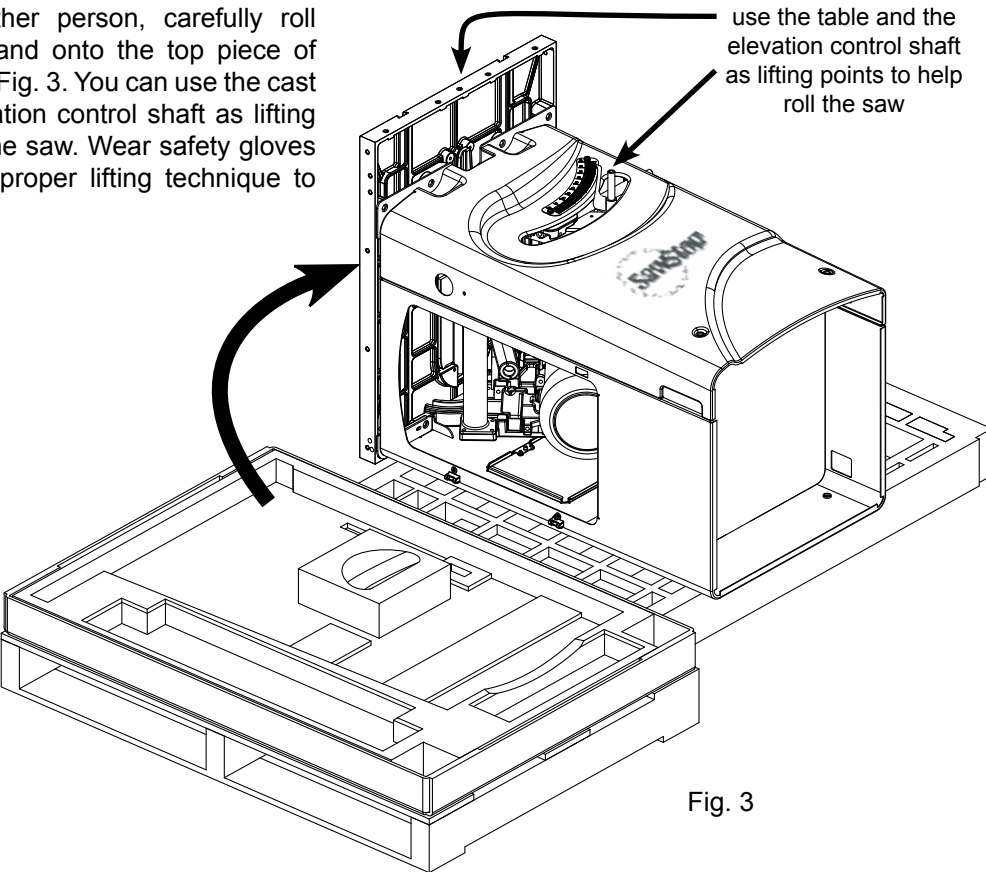

Fig. 3
- 3. With the help of another person, carefully roll the saw off the pallet and onto the top piece of Styrofoam, as shown in Fig. 3. You can use the cast iron table and the elevation control shaft as lifting points to help you roll the saw. Wear safety gloves and be careful to use proper lifting technique to avoid injury.